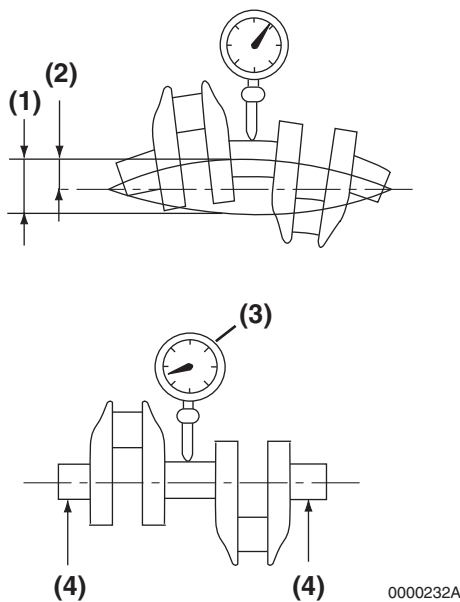

Figure 6-74
1. Put the crankshaft end journals (**Figure 6-74, (4)**) on V-blocks.
2. Place a dial indicator (**Figure 6-74, (3)**) on a center main bearing surface.